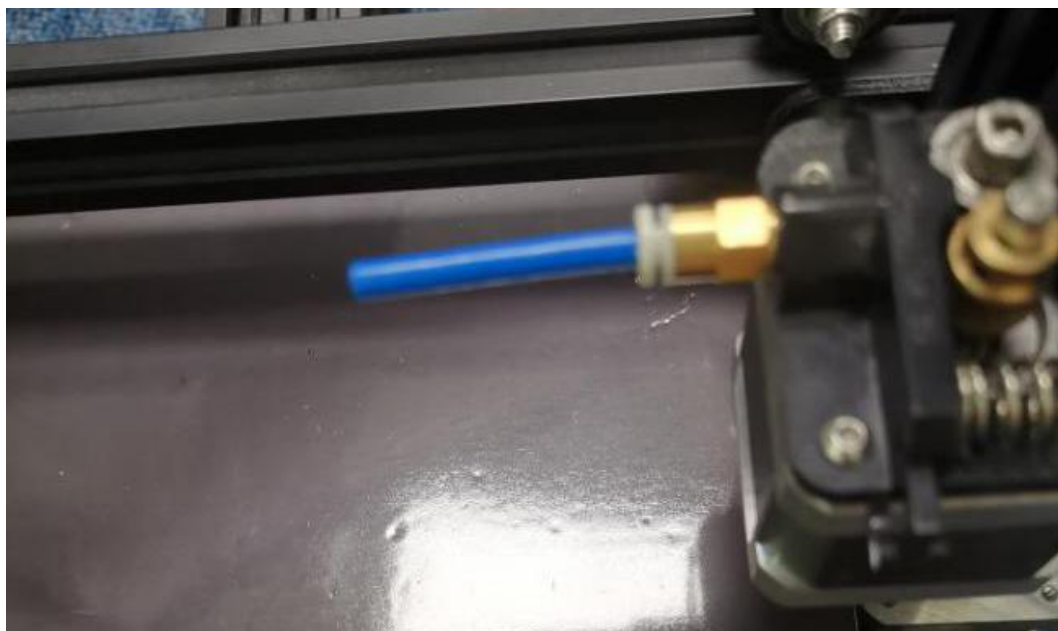

figure 13
3) Screw the smart filament module connector into the extruder.(like figure 13)